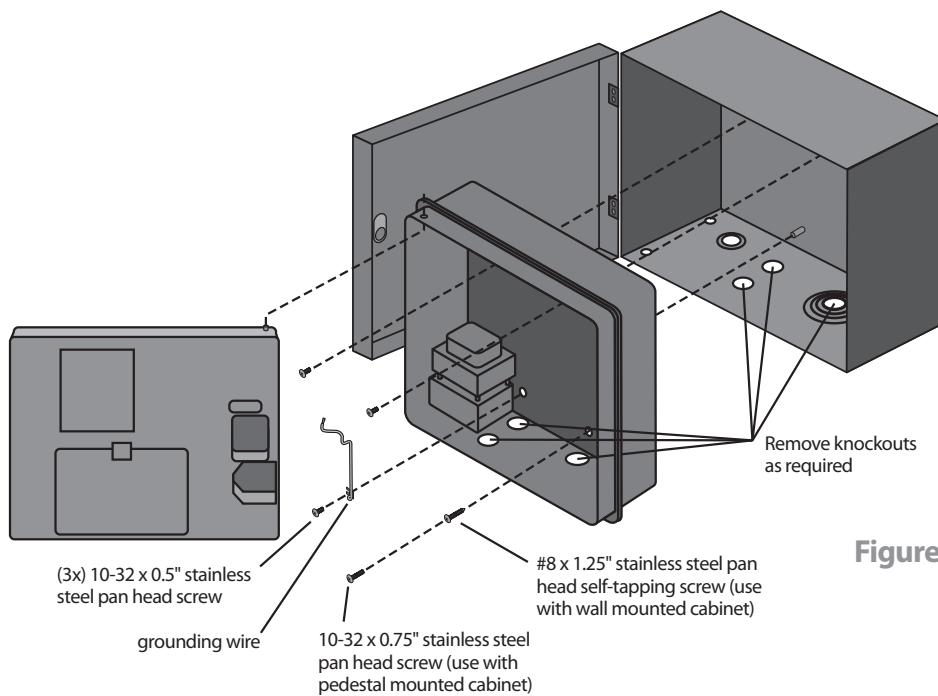

Figure 3
9. Place the controller into the cabinet and use three 10-32 x 0.5" (1.27 cm) pan head screws (included) to fasten the controller into the cabinet as shown in Figure 3. Note that the lower left screw also fastens the ground wire spade terminal to the metal cabinet. Use the additional 10-32 x 0.5" (1.27 cm) pan head screw to fasten the lower right controller housing mounting hole to the cabinet (see Figure 3).